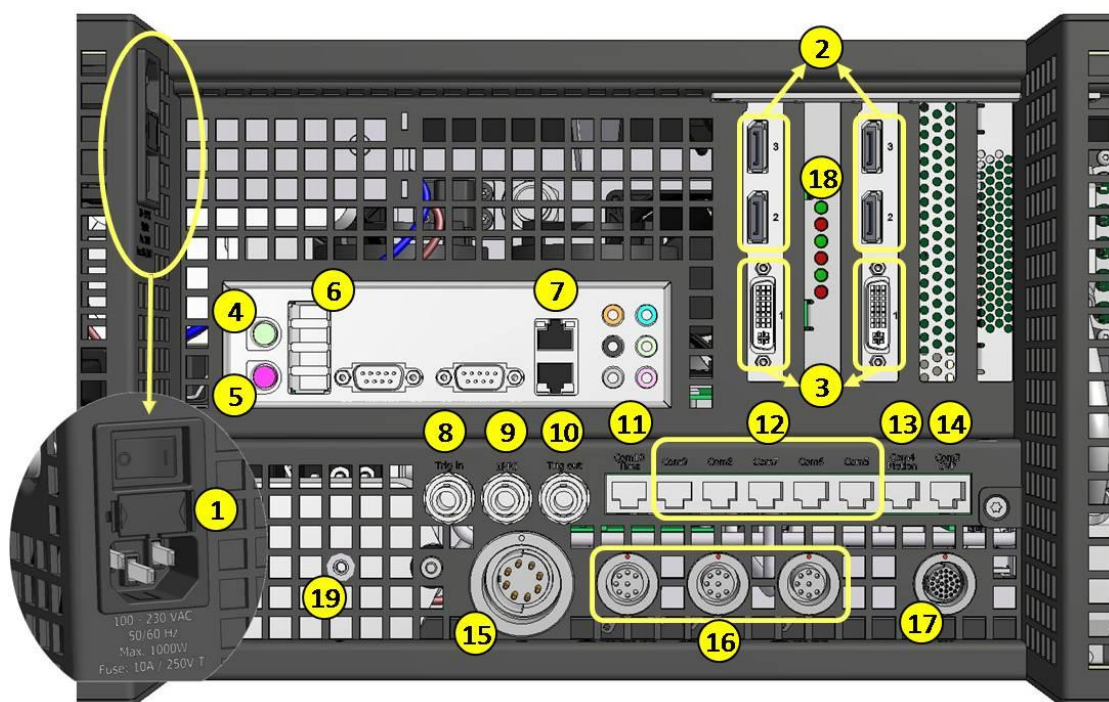

Figure 51: Transceiver Cable Connections
The critical connections are clearly marked on the transceiver and shown in *Figure 51*.
2. Connect the RJ-45 to the port marked Com3 SVP on the rear panel of the transceiver (see item 14 in *Figure 51*).
1. Connect a RESON standard SVP cable with a Fischer connector to the port marked SVP (see item 17 in *Figure 51*).